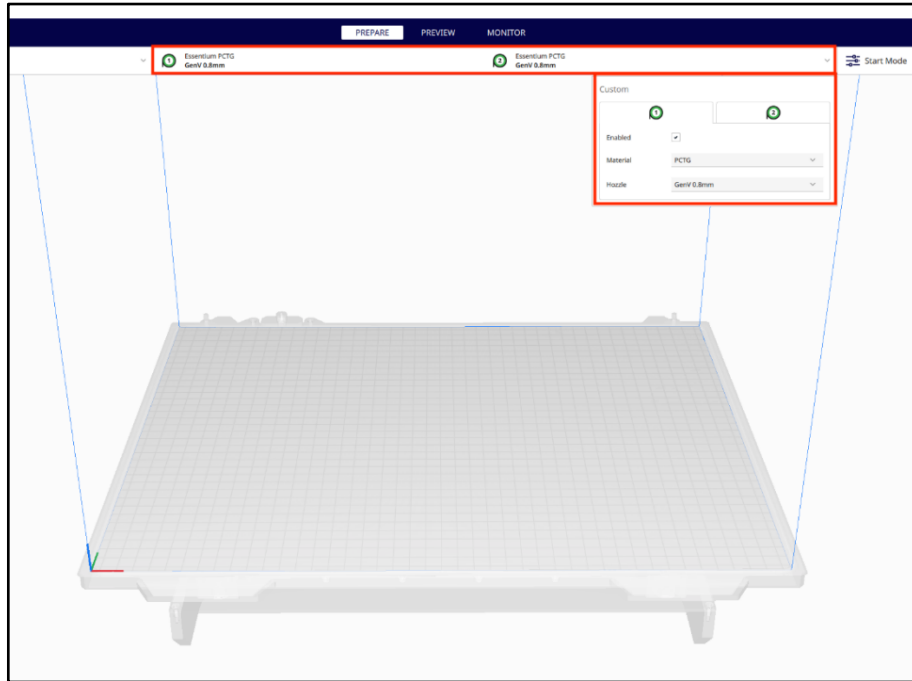

Figure 12: Selecting Material and Hotend/Nozzle
19. Select the desired material and hotend/nozzle (See Figure 12).